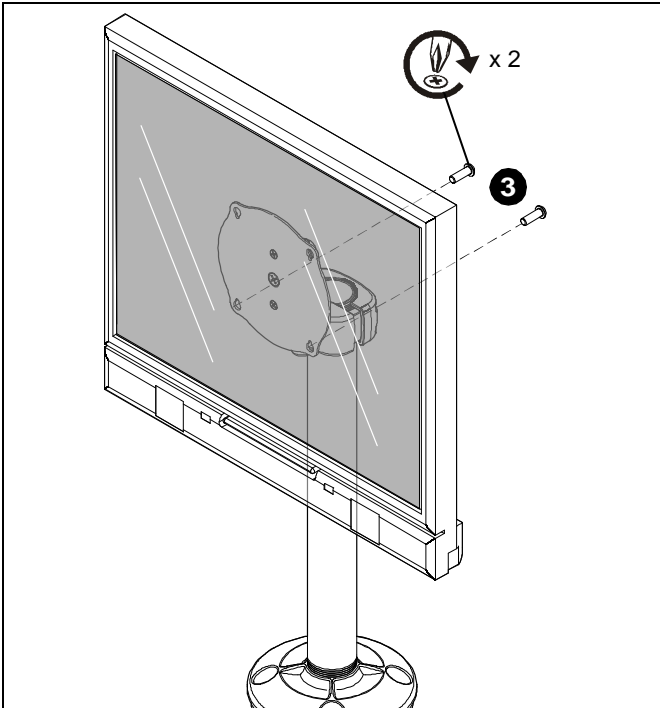

Figure 7
3. Install two more of the same screws through lower mounting holes in display mounting plate and into display back. (See Figure 7)